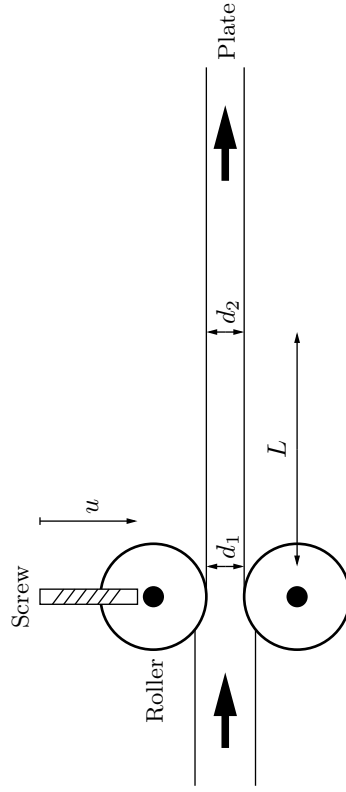

Figure 2.3a
2.3 Consider the simple model of the roller depicted in Figure 2.3a. To obtain a simple model we describe the relationship between the position of the screw and the thickness of the sheet  $d_1$  directly after the rollers as a first order transfer function